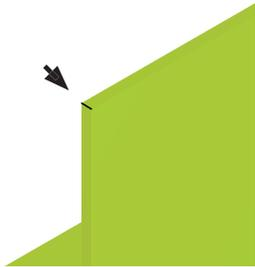

Fig. 31
Step 7. Click the top corner edge, **Fig. 31**.